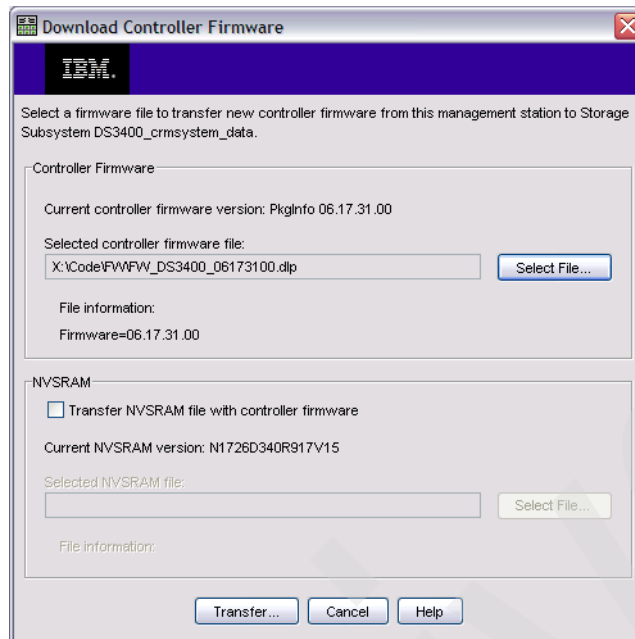

Figure 14-18 Download Controller Firmware - Select controller file
3. Click **Select File** in the Controller Firmware section and enter or browse to the file name (Figure 14-18).